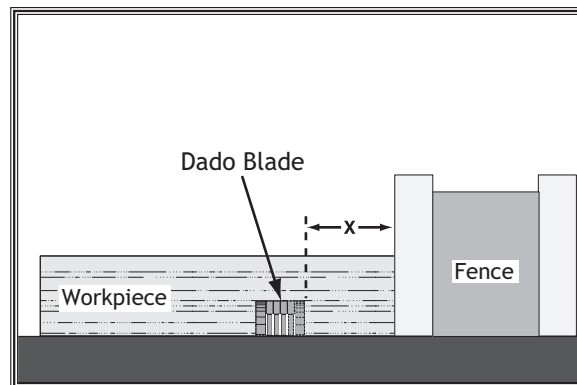

Figure 51. Illustration of a dado cut.
3. Adjust the distance between the fence and the inside edge of the blade, as shown in **Figure 51** on the previous page, to dado the length of a workpiece.